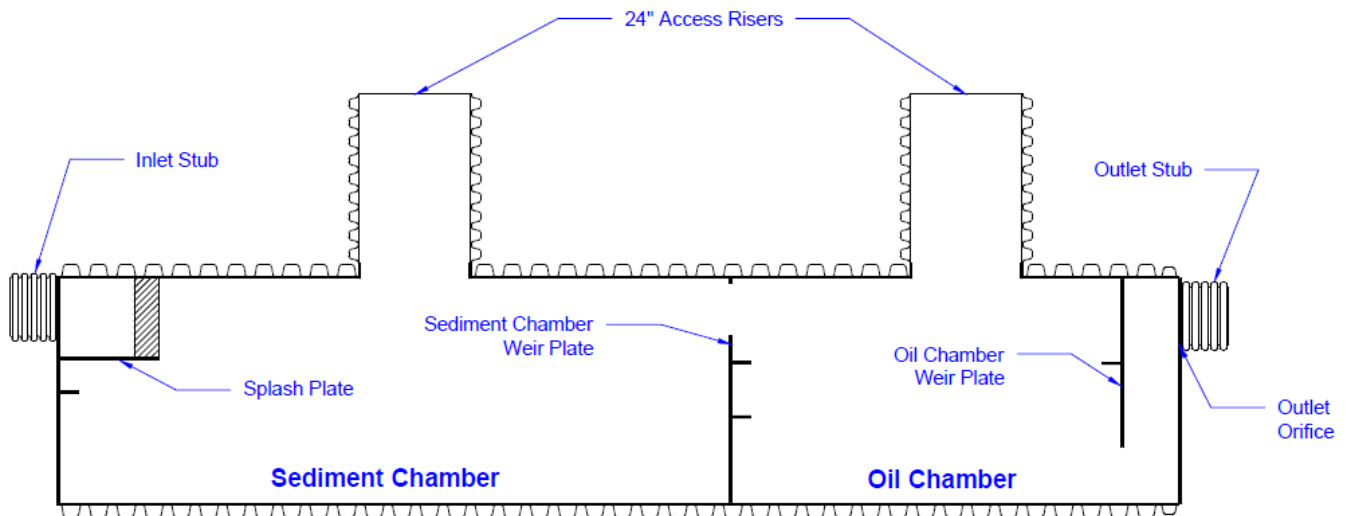

Figure 4: Stormwater Quality Unit (SWQU)
A good maintenance program is just as important as proper design and installation. There are several components that can be incorporated into a system that are conducive to regular maintenance. These components may be used exclusively or in tandem to allow for ease of maintenance. Figures 4 – 8 highlight the various system components.
- A Prinsco Stormwater Quality Unit (SWQU), shown in Figure 4, may be used upstream of the system to treat the storm water and reduce the amount of sediment and debris entering the system. This will allow the system to function more efficiently. Located at Prinsco.com, reference drawings D-4-100, D-4-101, D-4-102, and D-4-103 for more information on SWQU's and bypass structures.